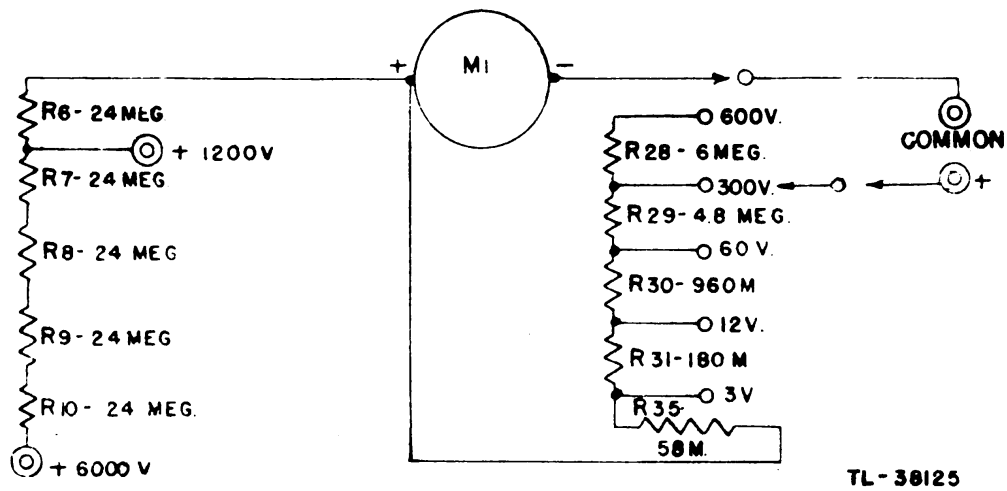

Figure 10. Test Set I-179. simplified D.C. volts circuit, 20,000 O.P.V.
14. TEST SET I-179 AS A D-C VOLTMETER, 20,000 OHMS PER VOLT (fig. 10).